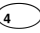

Figure 7. Setting a Reference for Far End Source Mode
3. Make the connections shown in Figure 7.